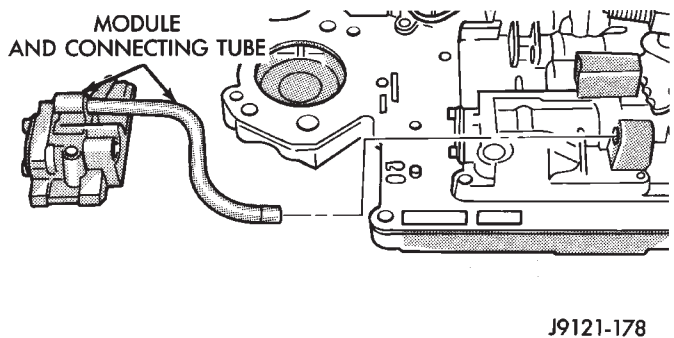
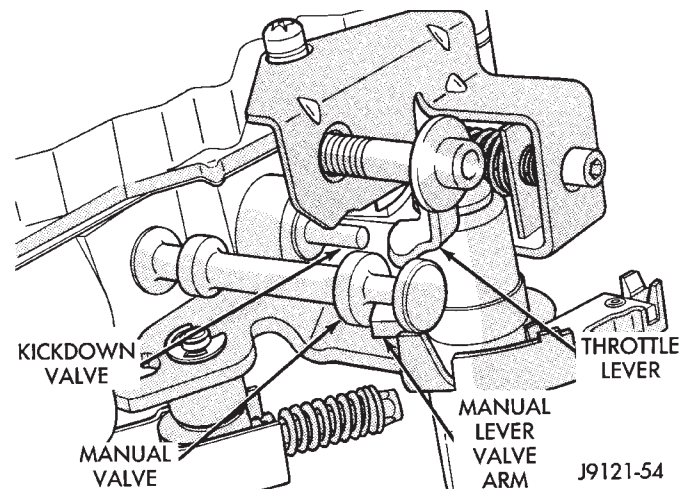

Fig. 111 Clutch Module And Connecting Tube Removal/Installation
Fig. 123 Manual And Throttle Lever Alignment
(9) Remove screws attaching converter clutch module to valve body and remove module and connecting tube (Fig. 111).
(23) Position adjusting screw bracket on valve body. Align valve springs and press bracket into place. Install short, upper bracket screws first and long bottom screw last. Verify that valve springs and bracket are properly aligned. Then tighten all three bracket screws to 4 N·m (35 in. lbs.) torque.
(24) Install module and connecting tube. Be sure long end of tube goes to module (Fig. 111). Tighten module screws to 4 N·m (35 in. lbs.) torque.
(25) Install throttle lever in valve body. Then install manual lever over throttle lever and start manual lever into valve body.
(26) Align manual lever detent with detent ball and align lever arm with manual valve. Hold throttle lever upward. Then press down on manual lever until lever is fully seated.
(27) Install manual lever seal, washer and retaining E-clip.
(28) Lubricate shaft of manual lever with light coat of petroleum jelly. This will help protect seal lip when manual shaft seal is installed.
(29) Verify that throttle lever is aligned with end of kickdown valve stem and that manual lever arm is engaged in manual valve (Fig. 123).